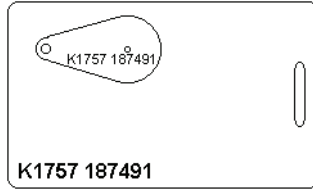

Figure 4-3: Proximity Card/Key Tag Number
- Locate the Keri/Wiegand Card Number Range field. Click in the **Starting From** field. Enter the card number for the first card in the range of cards to be enrolled (the lowest number). The card number is the second set of digits printed on the body of the card (in Figure 4-3 on page 5 of this section, it is the digits corresponding to 187491). The card number will be more than 4 digits long. For example, the entire number of the first card is K1757 187491; the card number is **187491**, 6 digits long.
6. Locate the Keri/Wiegand Card Number Range field. Click in the **To** field. Enter the card number for the last card in the range of cards to be enrolled (the highest number). The card number is the second set of digits printed on the body of the card (in Figure 4-3, it is the digits corresponding to 187491). The card number will be more than 4 digits long. For example, the entire number of the last card is K1757 187495; the card number is 187495.